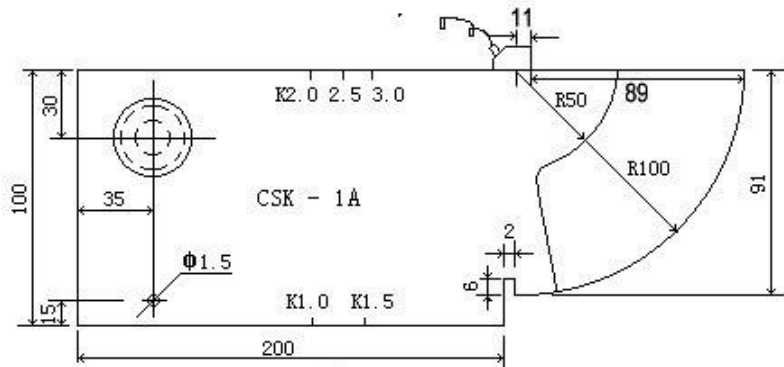
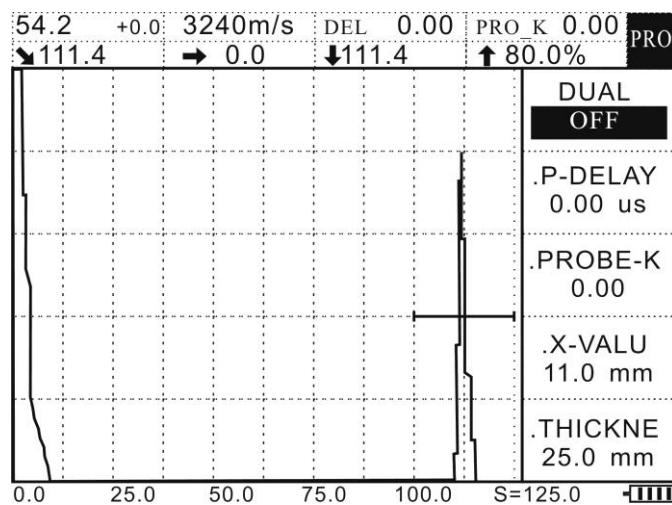

Figure 4-4
Figure 4-5
3. Calibrate the front edge of the probe: put the probe on the test block and move it till the reflector echo of the hollows of R100mm reach the highest level, measure 89mm of the front face of the probe with a ruler, at this point, the front edge value of the probe is: $100-89=11$ mm. As shown in Figure 4-4, after that, press **PROBE** to enter the probe menu, then press **▲** (up) or **▼** (down) to select the probe front edge submenu, **▶** (left) or **◀** (right) to set the probe front edge value as 11mm, as shown in Figure 4-5.